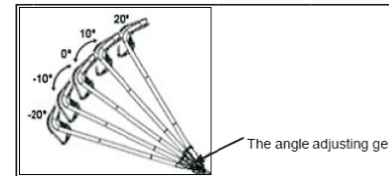

Fig.3
2. Rotating the upper handle centered of the angle adjusting gear for adjusted a appropriate angle into the scope -20° to 20° as the Fig.3 shown;